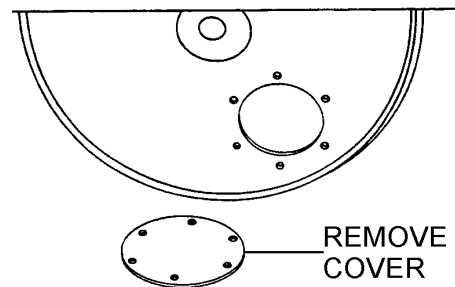

Figure 30. Chain Cover
1. Take off the checking cover on roller and coat grease on the chain if necessary (Figure 30). The chain should be lightly lubricated with motor oil.